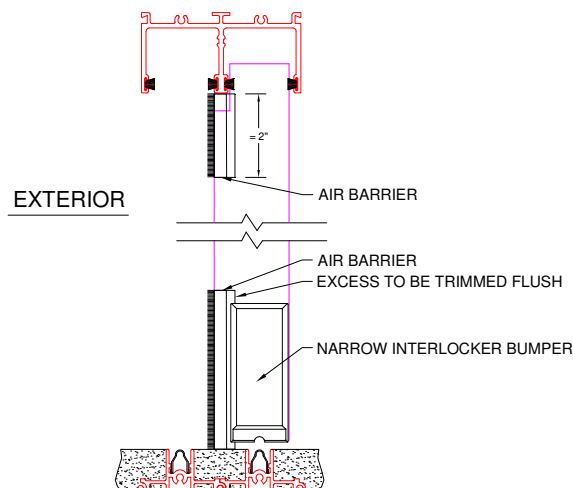

Figure C2:
4. Trim the measured amount from the bottom of the air barrier so the cut edge is concealed after installation (Figure C2).
6. The air barrier may also be cut to fit and installed at the top of the interlocker (Figure C2). Do not cut the air barrier to less than 2 inches in length, as the adhesive backing will not provide adequate adhesion if shortened beyond this length.